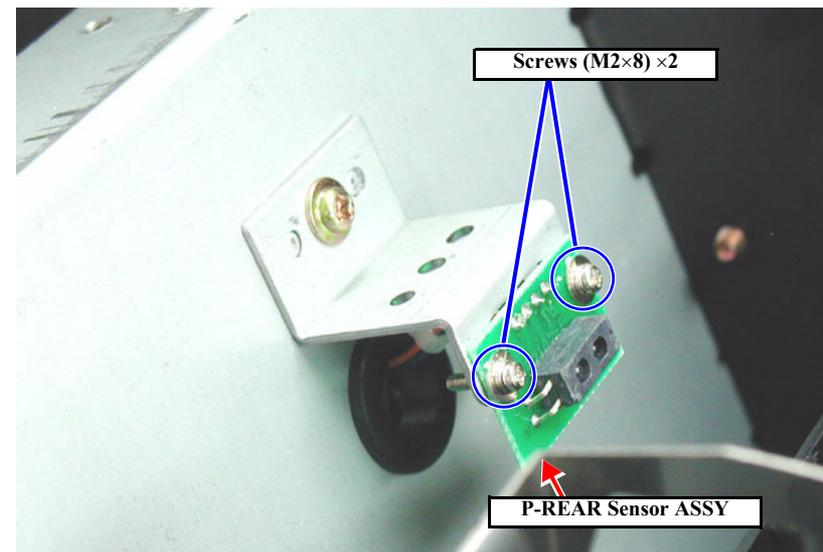

Figure 4-61. Removing the P\_REAR Sensor ASSY
10. Remove the two (CP(W): M2×8) screws securing the P\_REAR Sensor ASSY and remove the P\_REAR Sensor ASSY. (See Figure 4-61)